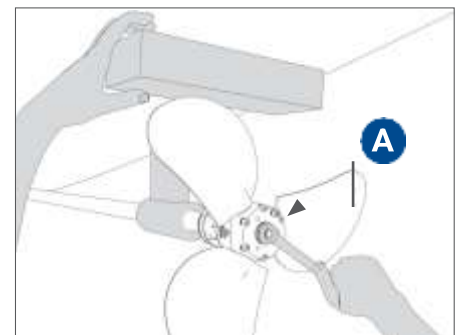

FIG. 14 Lock rotation and tighten the lock nut
- To avoid bending the propeller blades when turning, make sure you turn the blades in the thrust position (not in the feathering position), and lock the rotation with a wooden wedge, to be placed between the blade and the hull. (**Fig. 14**).
- Tighten the lock nut **A** (**Fig. 14**) applying an appropriate tightening torque (depending on the type of nut, as recommended in the TABLE OF TIGHTENING TORQUES). When tightening, take care to move the blades and gradually tighten the nut until the specified tightening torque is reached.